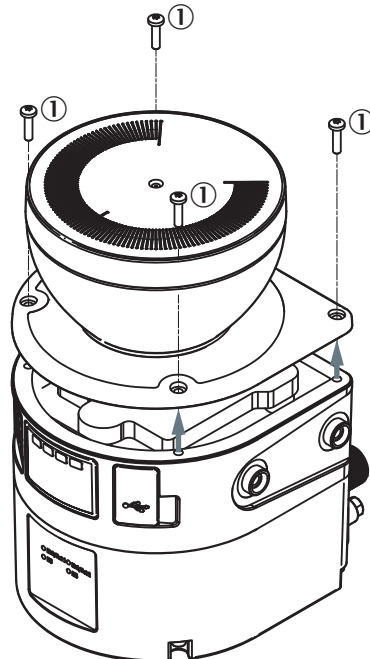

Figure 69: Fixing screws for the optics cover
13. Screw in new fixing screws, see figure 69, page 116.